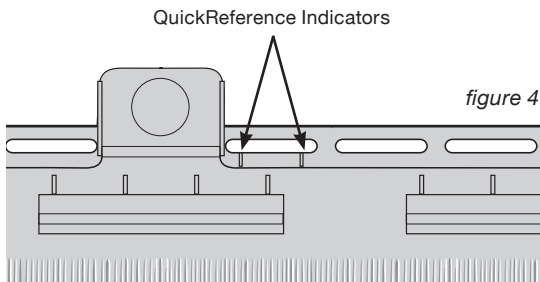

figure 4
3. Fasten the panel to the wall by first nailing through the round center hole in the nailing hem at the top of the panel. Continue nailing the panel with 5 nails: one in the right-end nail slot and one at each of the QuickReference™ Nail Mark Indicators (figure 4). Leave 1/8" to 1/16" between the nail heads and the panel to allow freedom of movement during normal expansion and contraction.